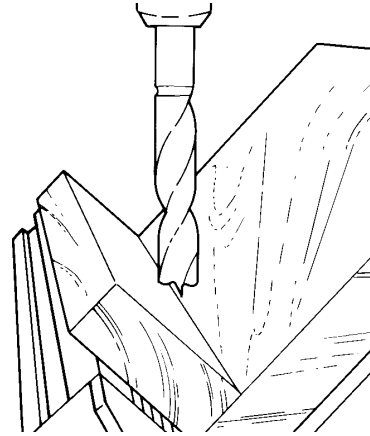
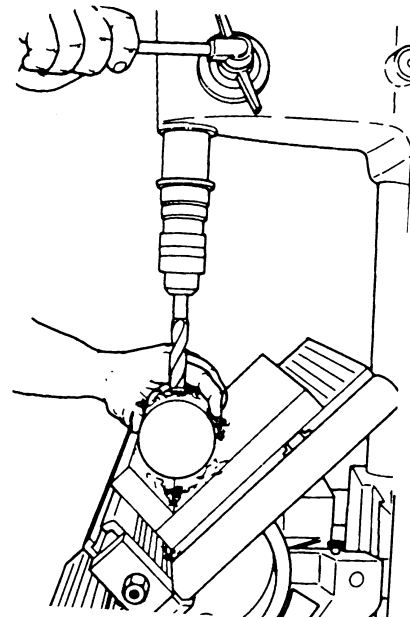

Figure C-29
Figure C-30
3. Extend the quill so that the drill bit just touches the 'V.' With the table height crank, move the table so that the pilot of the drill bit points to the bottom of the "V." See Figure C-29. Lock the table. Place the stock in the "V" and set the depth control. Drill the hole, holding the stock down firmly. See Figure C-30.